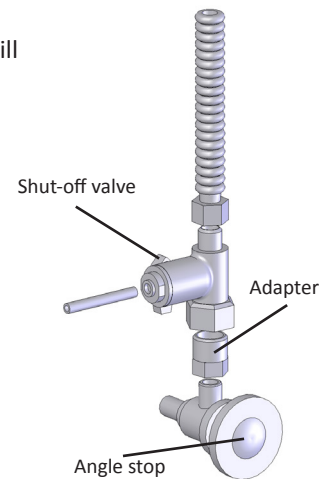

Fig. 1
4. Install the feed valve assembly into the angle stop. (Fig. 1)